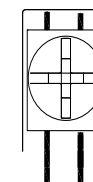

Figure 2 Wire Connection
2. Break all in-out wire runs on supervised circuits to assure integrity of circuit supervision as shown in Figure 2. The polarity shown in the wiring diagrams is for operation of the appliances.